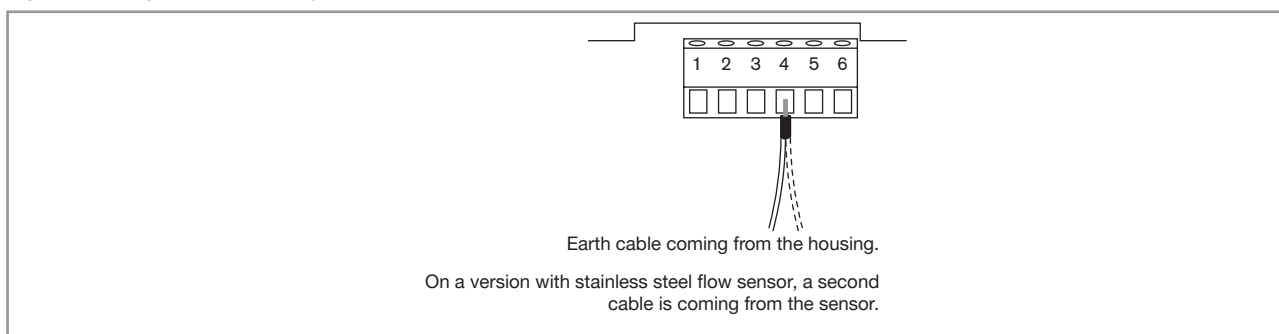

Fig. 15: Terminal block 1 connecting the earth wire coming from the housing (made in the factory)
- Make sure the earth cable coming from the housing and, on a version with stainless steel sensor, the cable coming from the flow sensor, are connected as shown in Fig. 15, chapter 7.3.3.